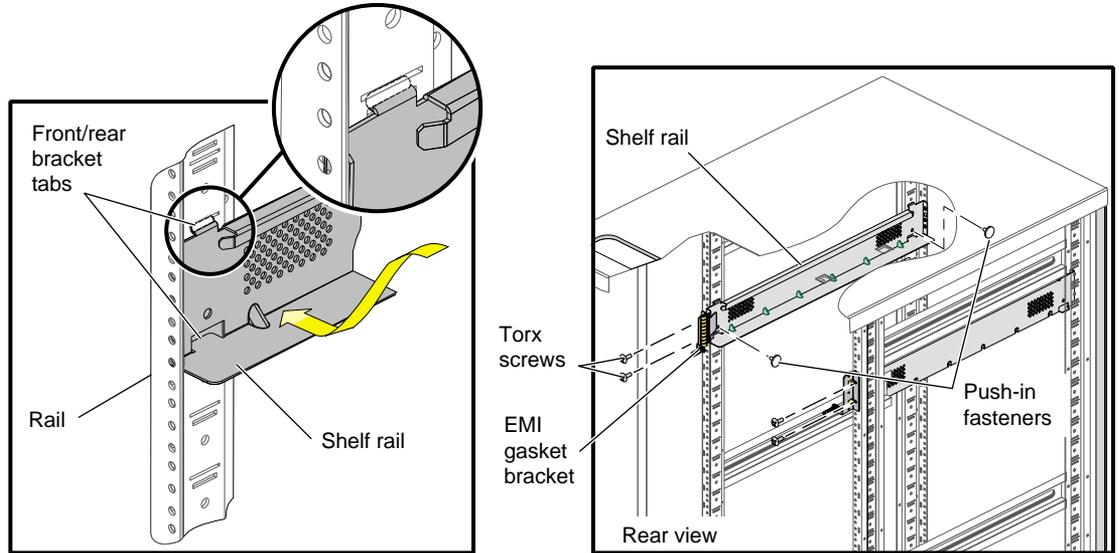

Figure 1-5 Shelf Rail Installation
2. In the slot location from step 1, position the left shelf rail at a 90-degree angle to the front and rear rack rails (refer to Figure 1-5).